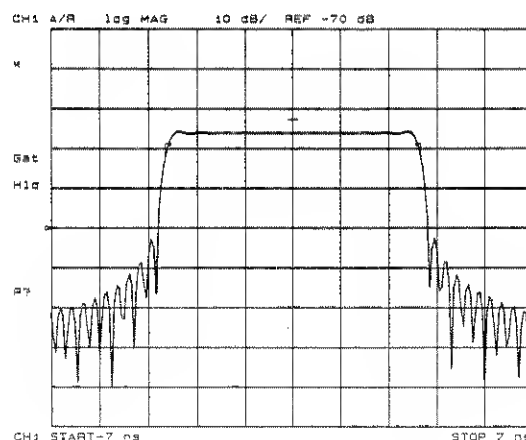

Figure 8-16. Gate Shape
**Setting the Gate.** Think of a gate as a bandpass filter in the time domain (Figure 8-16). When the gate is on, responses outside the gate are mathematically removed from the time domain trace. Enter the gate position as a start and stop time (not frequency) or as a center and span time. The start and stop times are the bandpass filter  $-6$  dB cutoff times. Gates can have a negative span, in which case the responses *inside* the gate are mathematically removed.